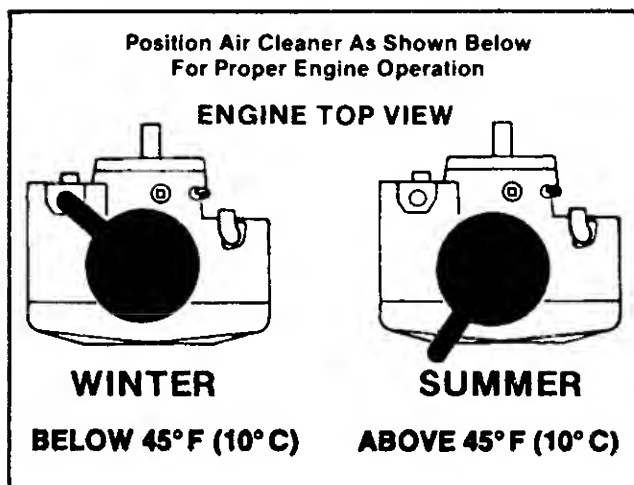

Figure 3-7. Typical Anti-Icing Air Cleaner Cover Positions
6. Install air cleaner cover with air inlet duct positioned for the correct season. Refer to the decal affixed to the cover (see Figure 3-7).